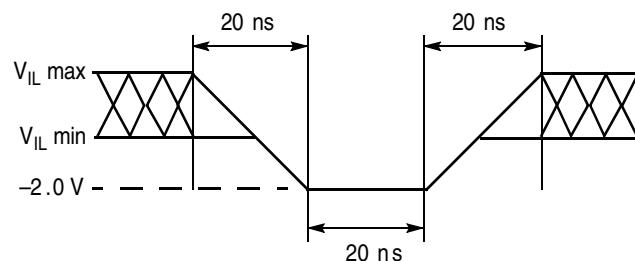
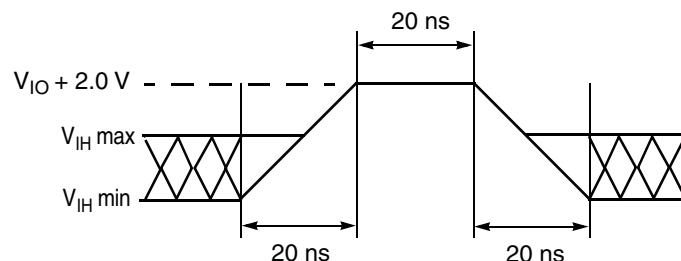

Figure 11 Maximum negative overshoot waveform
Figure 12 Maximum positive overshoot waveform
73. Minimum DC voltage on input or I/O pins is -0.5 V. During voltage transitions, input or I/O pins may undershoot VSS to -2.0 V for periods of up to 20 ns. See Figure 11. Maximum DC voltage on input or I/O pins is VCC + 0.5 V. During voltage transitions, input or I/O pins may overshoot to VCC + 2.0 V for periods up to 20 ns. See Figure 12.